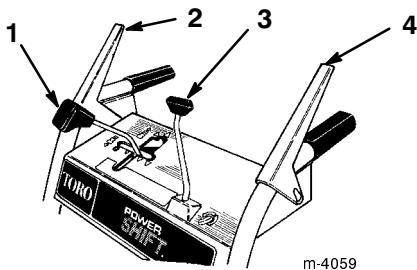

Figure 13
- **Speed Shift Control** (Fig. 13)—The control has a neutral position, four forward speeds, and two reverse speeds. It also controls the power shifting of the wheels. To select a speed, move the shift control to the desired position.
- **Auger/Impeller Drive Control Lever** (Fig. 13)—To engage both the auger and impeller, press the lever against the right handgrip. To disengage, release the lever.
- **Traction Control Lever** (Fig. 13)—To engage the traction (wheel drive), press the lever against left handgrip. To stop traction, release the lever.
- **Discharge Chute Control** (Fig. 13)—Rotate the discharge chute control clockwise to move the discharge chute to the right and counterclockwise to move the chute to the left.
2. Make sure that the auger/impeller drive control lever and the traction control lever are in the *Disengaged* position (Fig. 13).
4. Release the traction and the auger/impeller drive control levers (Fig. 13).